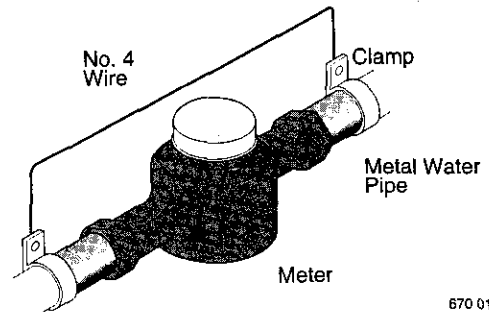

Figure 4
**IMPORTANT:** The cold water pipe you use as a ground must have metal continuity to electrical ground. If continuity is interrupted by plastic, rubber, or other electrical insulators; such as hoses, fittings, washers or gaskets (including water meter or pump), a metal bypass must be used. Any electrically insulated connector should be jumped (as shown in Figure 4), with a length of No. 4 wire clamped securely at both ends.